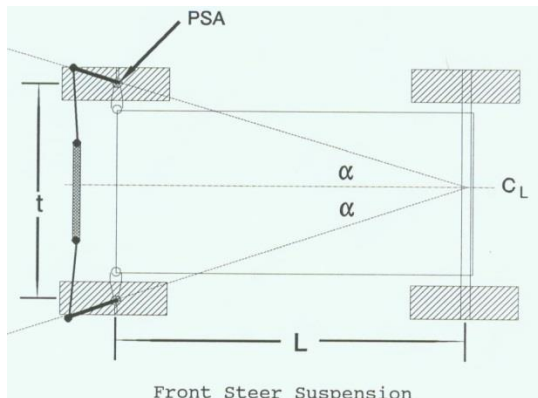
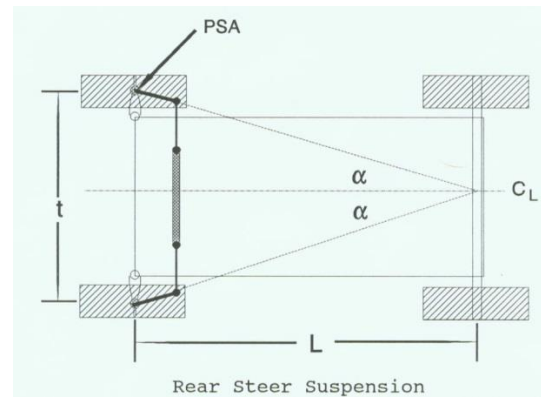

Figure 7: Steering system with the steer arms in front of the front axle
Figure 8: Steering system with the steer arms to the rear of the front axle
How you achieve 100% Ackerman is fairly straight forward. The only thing that needs to be considered is the length of the wheel base (L) and the distance between the kingpins or ball joints side-to-side (steering axis-PSA). The steer axis span is always close to the track width as well. The first consideration is where the steering arms are located, whether they are forward of the front axle as shown in Figure 7, or behind the front axle, Figure 8. Ackerman is much harder to achieve with the front steer arm arrangement because the wheels, rotors, and steer arms typically interfere.
This brings up the 2nd way to get Ackerman which is to move the steering rack. If you notice in Figure 7 there is an angle between the tie rod and the steer arm. Moving the rack back allows you to keep the same angle while reducing the steer arm angle; this provides Ackerman as well.